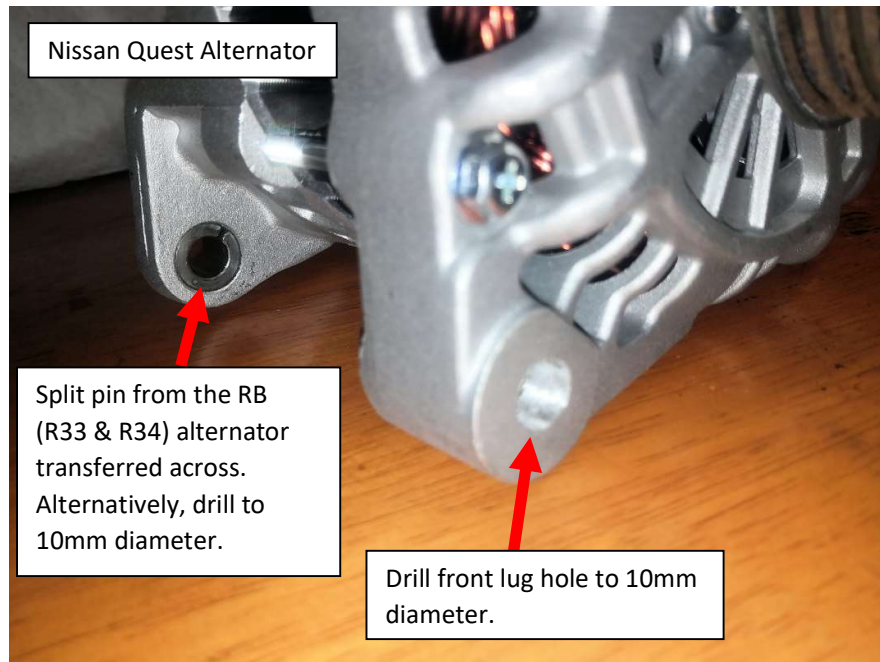

Figure 2 – Transfer OR Drill Split Pin and Drill Front Lug Hole
3. Knock out and transfer the split pin from your OEM RB alternator to the Nissan Quest unit (figure 2). Alternatively, you may drill the split pin that came with the Nissan Quest alternator to 10mm diameter.
4. Drill the Nissan Quest alternator mounting hole to 10mm diameter (figure 2).